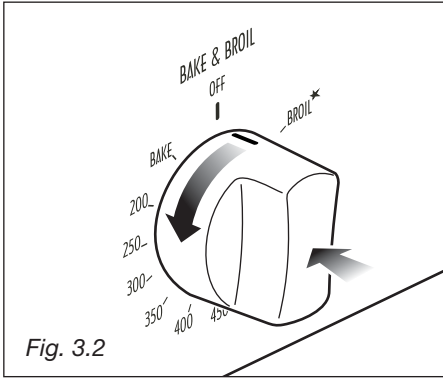

Fig. 3.2
- 2) Lightly press and turn the thermostat knob anti-clockwise (fig. 3.2) to max position **550***.